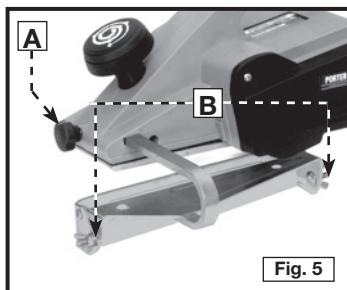

Fig. 5
1. Loosen the knob (A) Fig. 5.
3. Tighten the knob (A) Fig. 5.
1. Loosen the two wing nuts (B) Fig. 5.
3. Tighten the two wing nuts (B) Fig. 5.